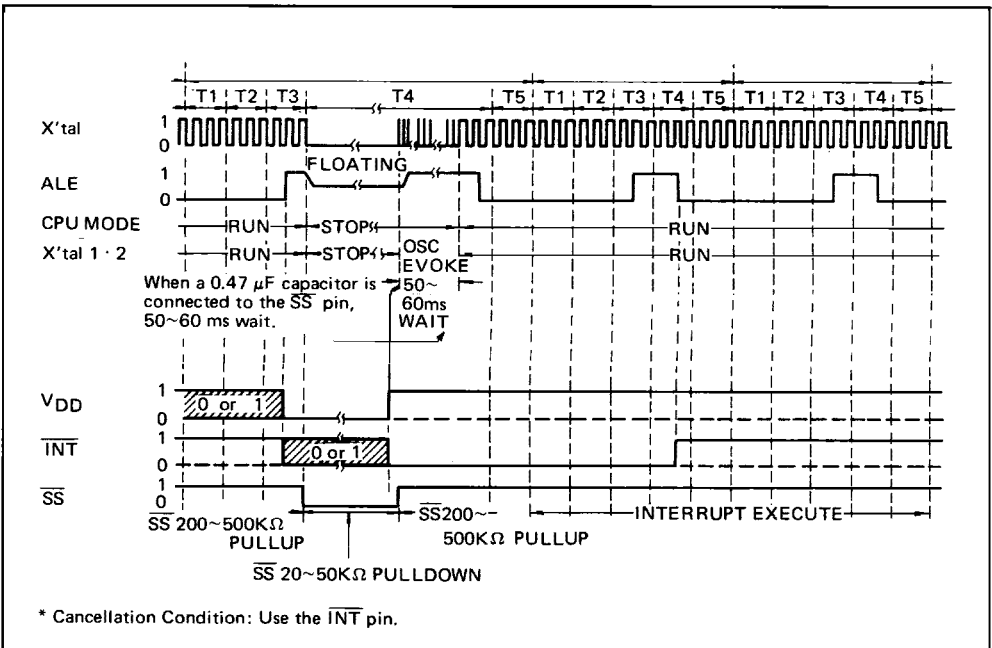
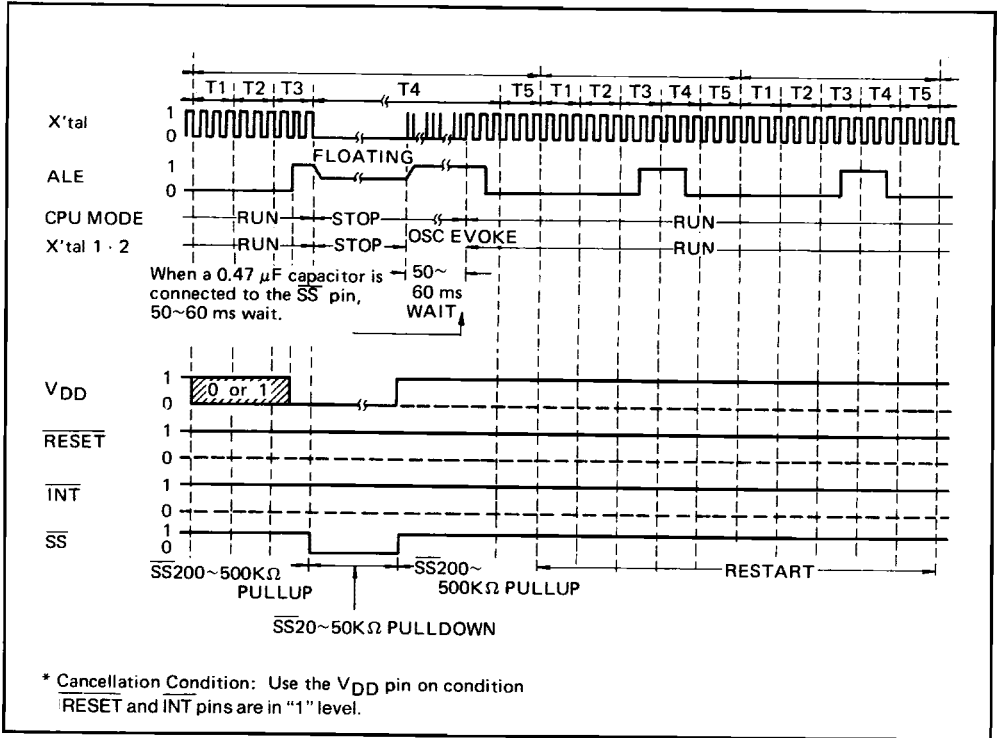

Fig. 4-6 Hardware Power-Down Mode Timing Chart
Fig. 4-7 Hardware Power-Down Mode Timing Chart
However, if the power-down mode is started during an interrupt processing routine, execution will be continued on the next instruction after the present instruction. The timing chart is outlined in Fig. 4-6.
- (3) Use of the $\overline{\text{INT}}$ pin during external interrupt disabled mode (i.e. following execution of DISI instruction or hardware reset)
- The clock generator is activated and the CPU started up when a "1" level is applied to the V_{DD} pin while a "0" level is applied to the $\overline{\text{INT}}$ pin. If this "0" level is maintained until at least 2 ALE output signals occur, execution is continued on the next instruction after the present instruction. The timing chart is outlined in Fig. 4-6.
- (4) Use of V_{DD} pin only
- The clock generator is activated and the CPU started up when a "1" level is applied to the V_{DD} pin while a "1" level is also applied to both the $\overline{\text{RESET}}$ and $\overline{\text{INT}}$ pins. In this case, execution is resumed from the stopped position. The timing chart is outlined in Fig. 4-7.